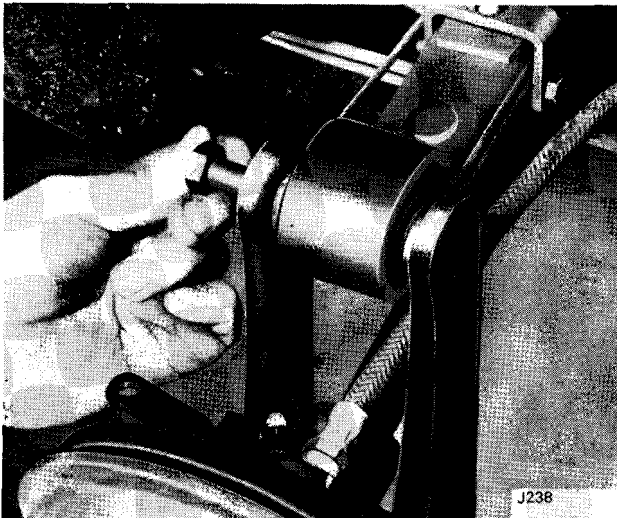
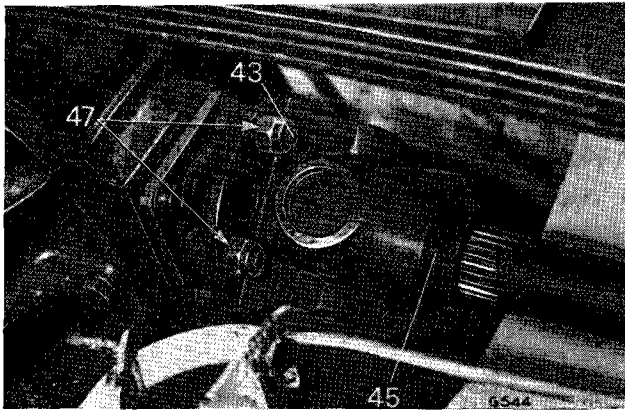

Fig. 46. Removing spring eye bolt
Fig. 51. Axle shaft universal joint connections
5. Supporting the vertical link (10), remove the bolt (46) from the road spring eye as shown on Fig. 46.
- the axle shaft coupling, Fig. 51;
3. Remove the damper (9), lower and remove the jack.
4. Supporting the brake assembly, remove the bolt (46) from the road spring eye, Fig. 46, and place the brake/axle shaft assembly on a clean bench.